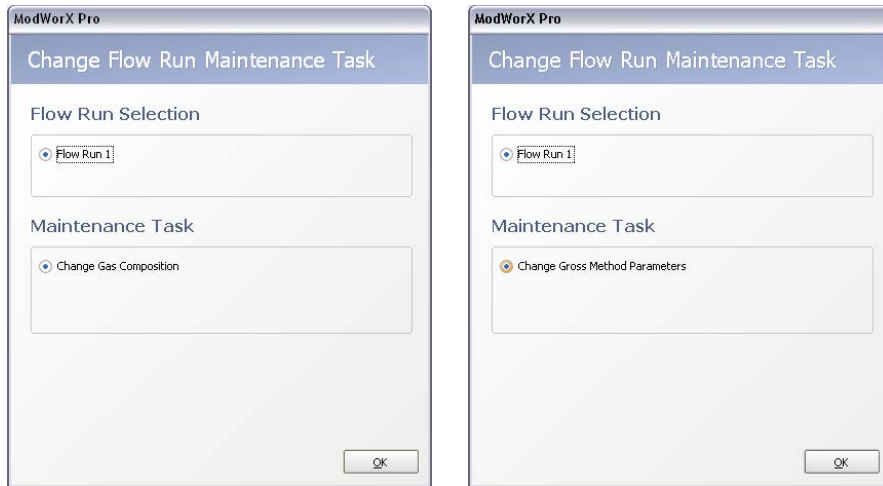

Figure 12.2
2. Click **Yes** at the Enter Maintenance Mode prompt. The Change Flow Run Maintenance Task screen will appear (Figure 12.2, page 164). The maintenance task displayed will vary, depending on the fluid property calculation method selected. For example, when calculating gas flow with the AGA-8 Detail method is used, the maintenance task will be “Change Gas Composition.” When the AGA-8 Gross method is used, the maintenance task will be “Change Gross Method Parameters.”
1. If Change Gas Composition is not displayed in the Maintenance Task field at the top of the Maintain Flow Run screen, click on **Change Task**. The Change Flow Run Maintenance Task dialog will appear (Figure 12.2, page 164).
1. If Change Gross Method Parameters is not displayed in the Maintenance Task field at the top of the Maintain Flow Run screen, click on **Change Task**. The Change Flow Run Maintenance Task dialog will appear (Figure 12.2, page 164).